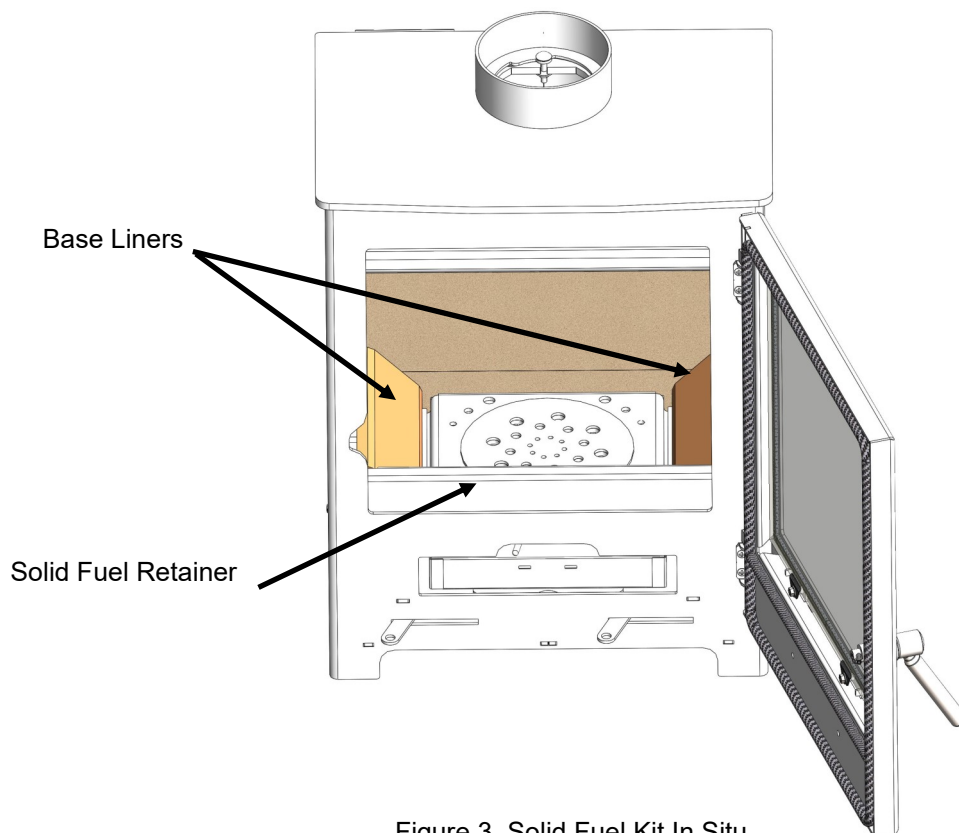

Figure 3. Solid Fuel Kit In Situ
Step 5 : Finally place the solid fuel retainer into position, engaging the two tabs within the front brace of the appliance. See figure 3. The appliance is now set for solid fuel use.